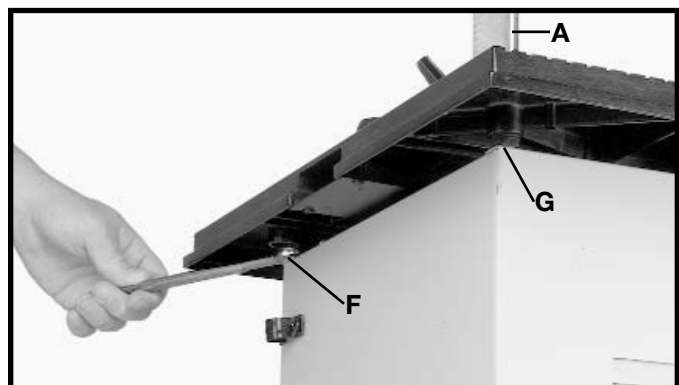

Fig. 26
6. Rotate leveling nut (F) Fig. 26, which is located at the rear of the machine and under the table counterclockwise as far as it will go up into the table.
7. Rotate leveling nut (G) Fig. 26, right or left until table surface (front and back) is 90 degrees to metal rod (A).
8. Turn leveling nut (F) Fig. 26, clockwise until it just contacts top of cabinet.